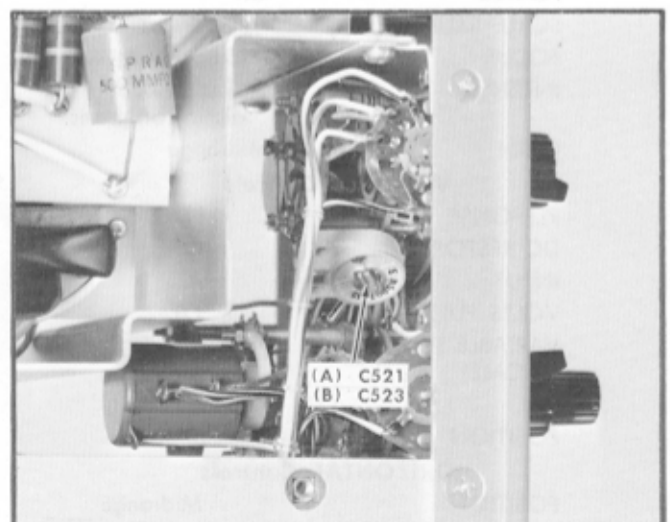
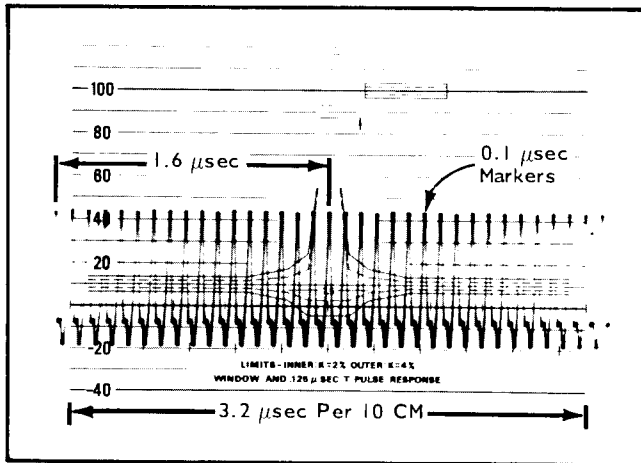

Fig. 6-19. Location of (A) C521 SN 101-1605 (B) C523 SN 1606 and up adjustment.
Fig. 6-20. Adjusting C523 for optimum  $\times 25$  sweep linearity.
- e. Adjust the horizontal sweep magnifier capacitor (C523 or C521; see Fig. 6-19), primarily for sweep timing and secondarily for linearity. For correct timing, 32 time markers per 10 cm should be displayed (see Fig. 6-20). For checking linearity, display should show 8 time markers for any 2.5-cm portion of the display.